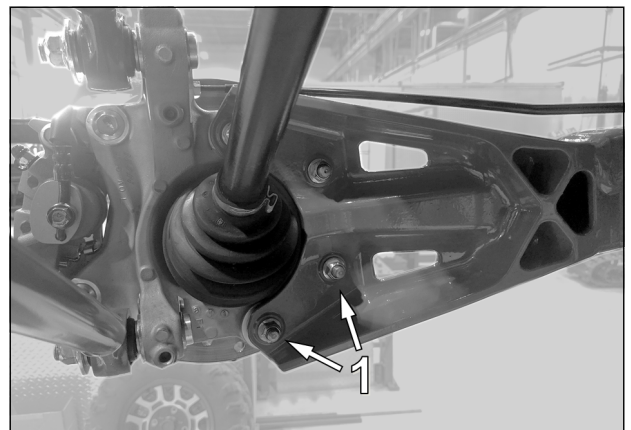
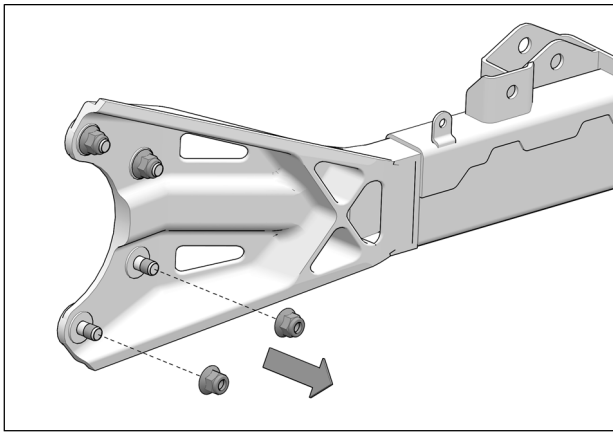

Fig. 4
Fig. 5
5. Remove the two lower nuts (1) from the group of four located inside the rear suspension trailing arm. See Fig. 4 and Fig. 5